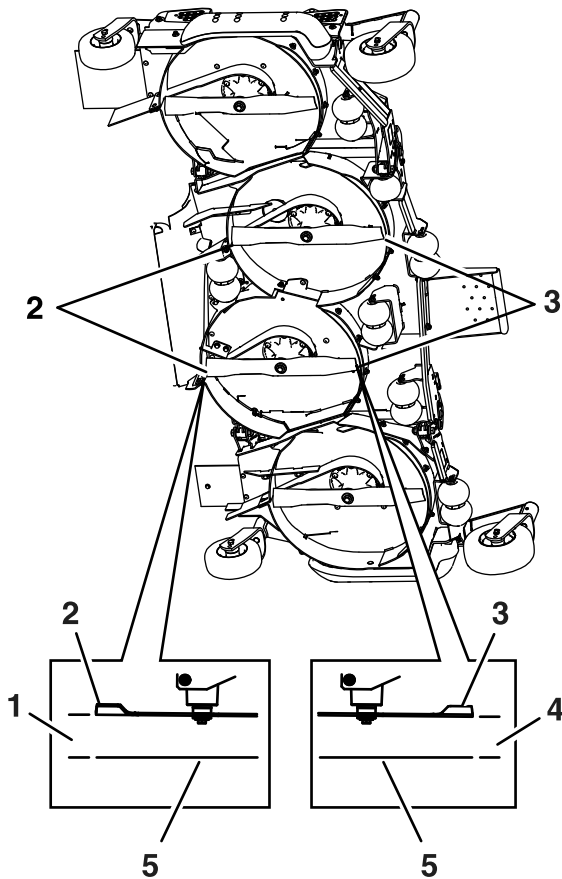

Figure 74
10. Measure from the level surface to the front tip of the left and right center deck blades (Figure 74).